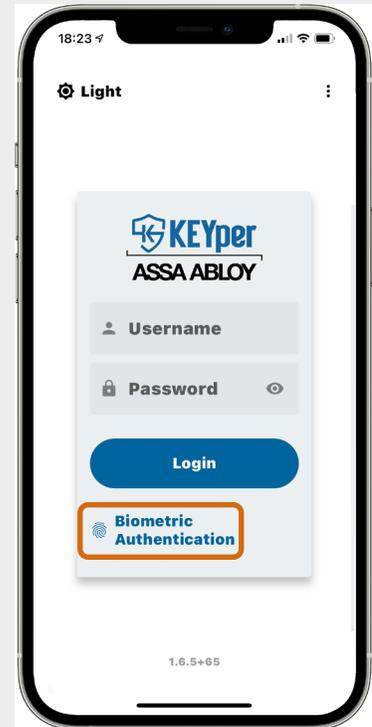

Fig. 22 – Login screen with Biometric Authentication button indicated
2. Tap **Biometric Authentication**, shown in Fig. 22.
- 🔑 At next login, tap the **Biometric Authentication** button, shown in Fig. 22, to log in with facial recognition or fingerprint.